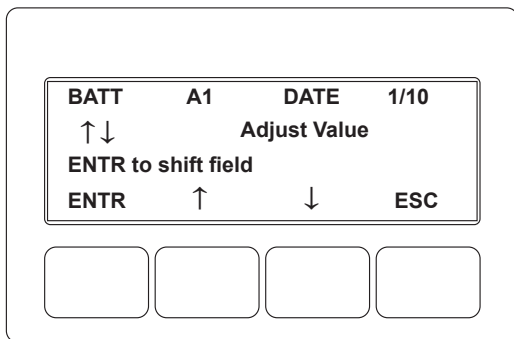

Fig. 2-33, Enter Battery Date Code
20. Enter the battery DATE code and the MHOs (conductance) readings. Battery date and MHOs entries can be made on the LCD (see Figs. 2-33 and 2-34).